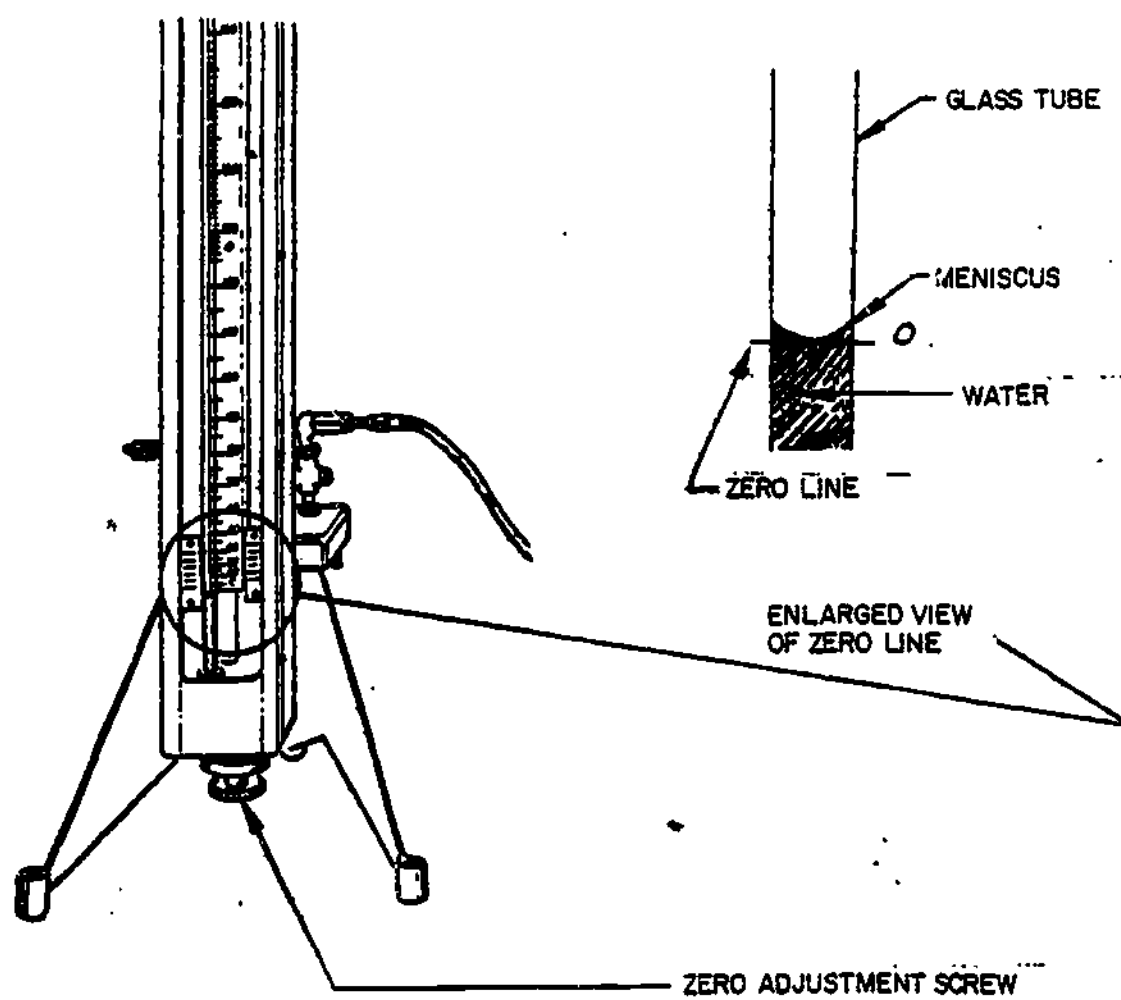

Figure 7.
i. Zero the water and mercury manometers by rotating the zero adjustment screw until the zero line on scale is correctly aligned with the water meniscus. Refer to figure 7 - page 29.